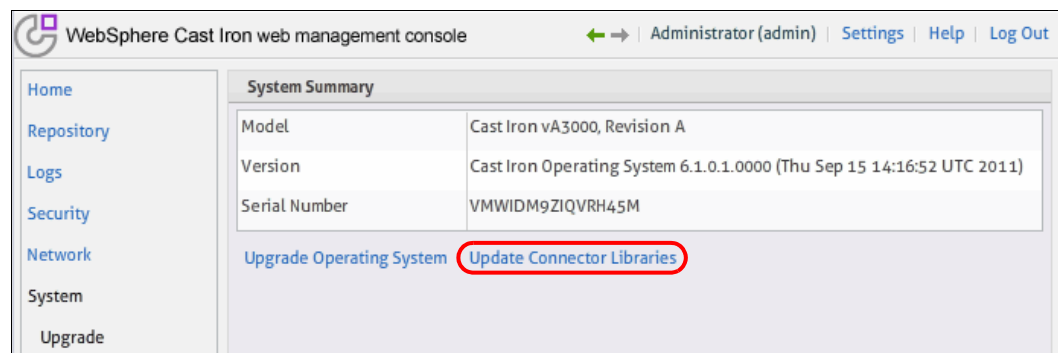

Figure 2-27 WMC System Summary
2. Click **Update Connector Libraries**, as indicated in Figure 2-27.